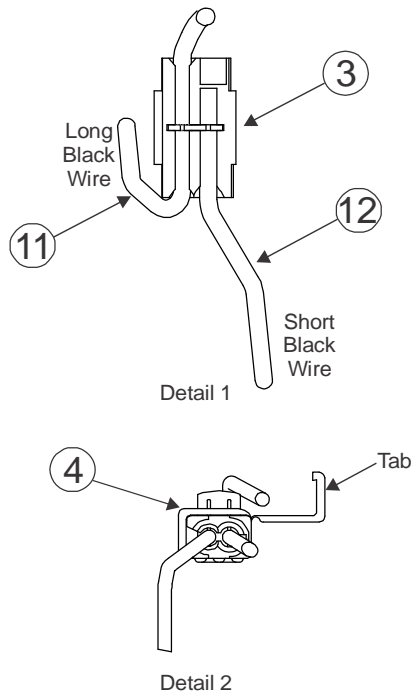

Figure 9:
4. Take the longer black wire (Item 11) and route it through the connector (Item 3) as shown in Detail 1 of Figure 9.
7. Close the tab of the connector (Item 3) and press firmly to close (see Detail 2 of Figure 9).